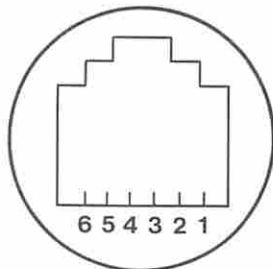

Figure 1. Voltage Check - Portable Personal Computer
- Check the keyboard connector at the front of the system for the correct voltages as shown in Figure 1.